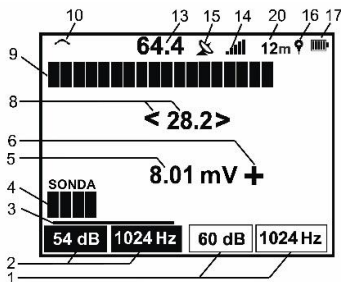

Fig. 21. Display in „Track-SENSOR” mode
- **TRACE-SENSOR** – to locate the utility insulation damage and detect the depth of damaged area; to detect the short-circuited areas or wire break and select the conductors in the multi-core cables. The display of this mode is shown in **Fig. 21**.